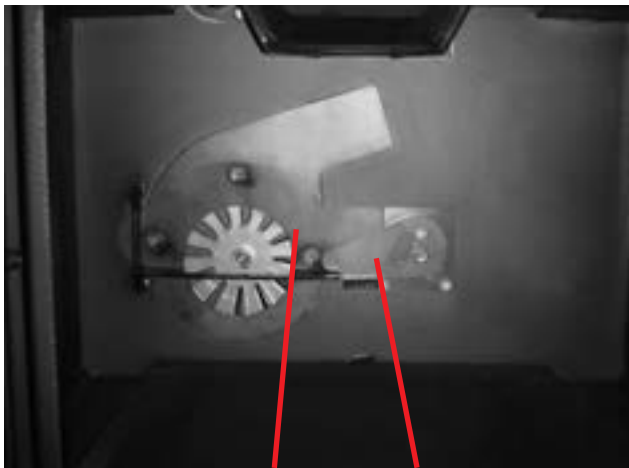
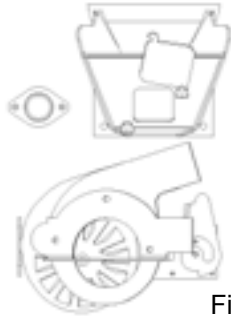

Fig. 24    *Combustion Blower Cover*    *Blower Cover Latch*
Fig. 27
3. Remove combustion blower cover by turning the latch vertical as shown in Fig.26 and sliding the cover out of the slot on the left (Fig.27.) This will expose the combustion blower wheel and flue outlet, (Fig.24.)